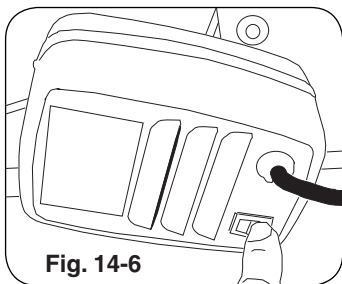

Fig. 14-6
12. Plug-in the rotisserie motor and press the rocker switch to start (Fig. 14-6).